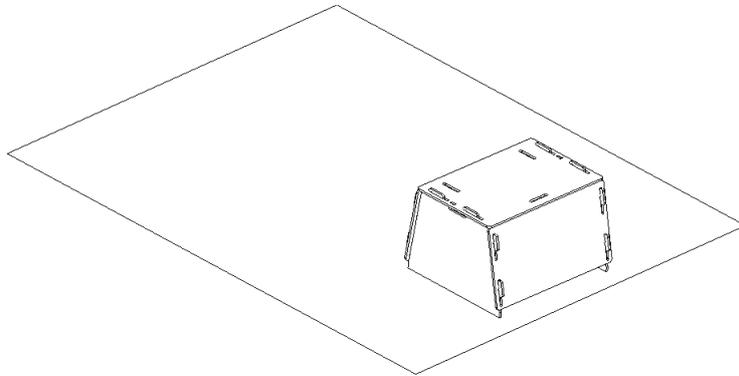

Figure 133: Scanner stand resting on a pattern.
2. Align the scanner stand with the rectangle marked on the pattern, paying close attention to the orientation of the slots in the stand cover (see Figure 133).